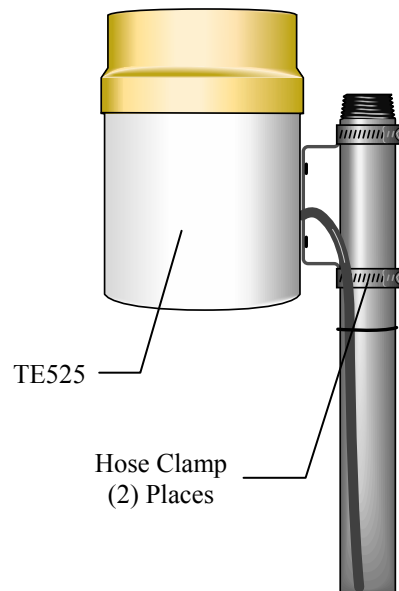

FIGURE 4.10-1. TE525 Texas Electronics Rain Gage
1. Mount the rain gage to a CM300-series pole or a user-supplied pole as shown in Figure 4.10-1. Mounting the gage directly to the tripod or tower is not recommended.